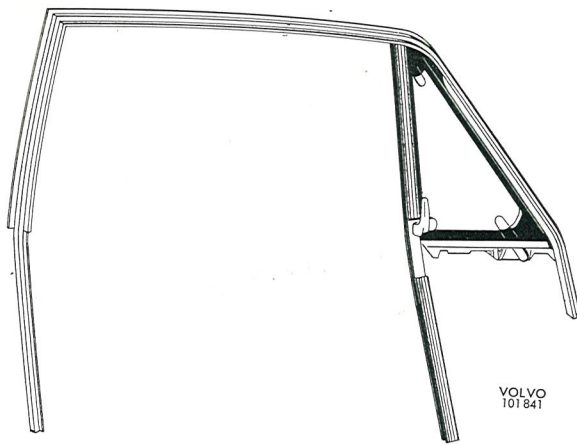

Fig. 8-13. Door frame
3. After the rubber strip round the ventilation window has been removed from the groove all round, the window with strip can be taken off, see Fig. 8-13.